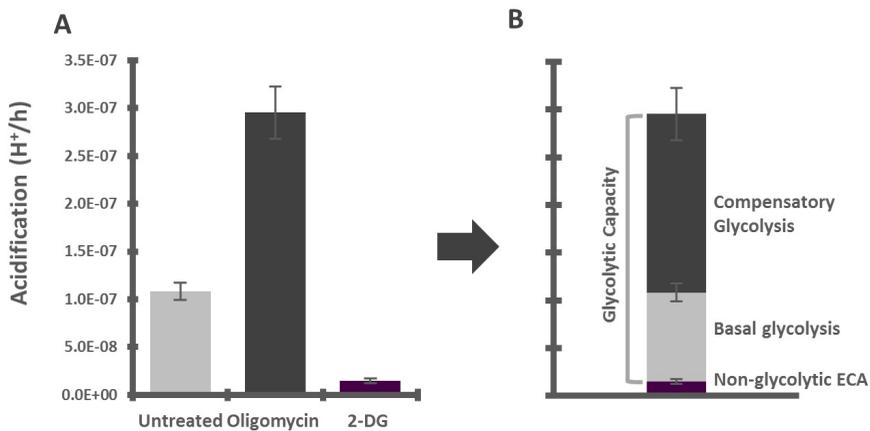

Figure 4. Glycolytic characterization of A549 cells.
Glycolytic Capacity: oligomycin treatment (black) inhibits F_1/F_0 ATPase, thereby preventing oxidative ATP generation and forcing the cells to compensate by increasing glycolytic flux to meet cellular ATP demand. The level of **Compensatory Glycolysis** can be determined by subtracting the Basal rate from the oligomycin-treated plate (Figure 4), This increase will be dependent on cellular ATP demand and the maximal glycolytic capacity under measurement conditions.
After conversion of the fluorescence lifetime signal into acidification rate (refer to Glycolysis Assay (ab197244) user manual for details), the calculated slopes (m , measure for acidification rates) can be used to determine the rate of non-glycolytic ECA (2-DG treated), basal glycolysis, ATP-demand limited glycolysis and the compensatory glycolysis (Figure 4).
- This assay can also be used in non – TR-F Intensity mode on some plate readers, although we recommend running the Signal Optimization protocol (Section 12) to confirm an acceptable S:B, as well as optimizing cell seeding density (Figure 4).